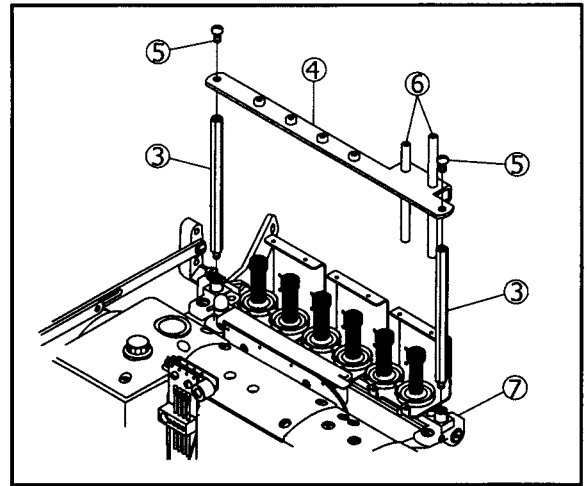

Fig. 19
Adjust the thread pipes⑥to thread smoothly without entangling. (Fig. 19)
將線架支柱③裝在線架固定座⑦，再將過線架④用螺絲⑤鎖在線架支柱③調整過線桿⑥，使穿線平順，不致於線會糾結在一起。(Fig. 19)